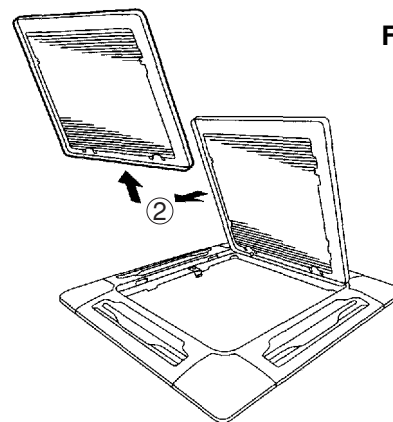

Fig. 9-13
- c) With the air-intake grille opened, remove the grille hinge from the ceiling panel by sliding it in the direction shown by the arrow ②. (Fig. 9-13)
- (2) Removing the corner cover